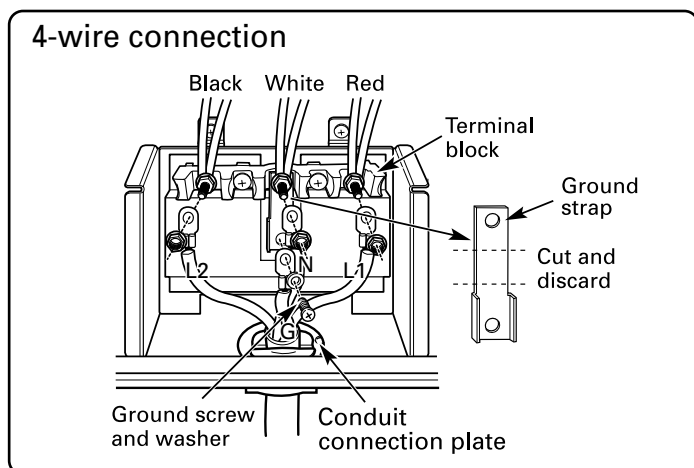

FIGURE 7
(Refer to Figure 7.)
2. **Cut the center portion of ground strap as shown Figure 7.**